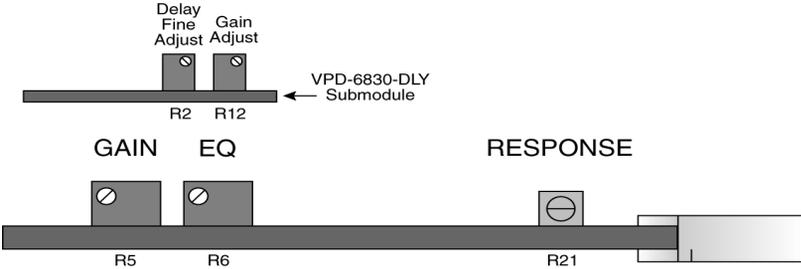

Figure 8-16. VPD-6830-DLY Series Card-Edge View
Turn the potentiometer clockwise to increase the gain. See Figure 8-16 on page 92.
Turn the potentiometer clockwise to obtain more equalization. See Figure 8-16 on page 92.
The high-frequency response is factory-set/calibrated. Readjustment is not recommended without precise test equipment. See Figure 8-16 on page 92.
8. Adjust the fine delay over a range of 0 to 5 ns using the **R2** multi-turn potentiometer on the submodule. *See* Figure 8-16 on page 92.
9. Adjust the **R12** multi-turn potentiometer on the submodule to compensate gain loss caused by the delay line. *See* Figure 8-16 on page 92.
6. Adjust the fine delay over a range of 0 to 5 ns using the R2 multi-turn potentiometer on the submodule. See Figure 8-16 on page 92.
7. Adjust the R12 multi-turn potentiometer on the submodule to compensate gain loss caused by the delay line. See Figure 8-16 on page 92.